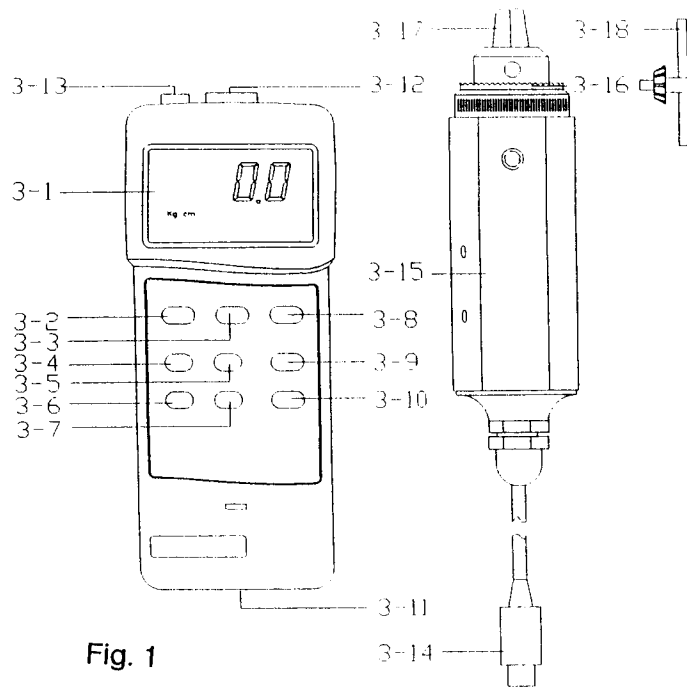

Fig. 1
- 1) Plug in the " Sensor Cable Plug " (3-14, Fig. 1) to meter's " Sensor Input Socket " (3-12, Fig. 1).
- 2) Power on the meter by push the " Power Button " (3-2, Fig. 1).
- 3) Push the " Sensor Type Button " (3-8, Fig 1) to check if the meter's sensor type is same as the external torque sensor.
Push the " Unit Button " (3-5, Fig. 1) to select the unit Kg f-cm, LB f-inch or N-cm (Newton-cm).
Push the " Resolution Button " (3-7, Fig. 1) to select the High resolution or Low resolution.
The " Fast/Slow Button " (3-10, Fig. 1) is used to select the fast sampling time or slow sampling time.
7) To connect the "Cramp" (3-17, Fig. 1) to the measured installation and use the "Opinion" (3-18, Fig. 1) to lock the "Gear" (3-16, Fig. 1). Ref. Fig. 2 & Fig. 3.
Before the measurement, if the meter not show zero value, it can push the " Zero Button " (3-9, Fig. 1) to tare the display value, the LCD will change to zero value.
During the measurement, push the " Peak Button " (3-6, Fig. 1), the LCD will show the " PEAK " indicator & the display will hold the peak value.
During the measurement, pushing the " Hold Button " (3-3, Fig. 1) will freeze the measured value & display will indicate " HOLD " symbol. Push the " Hold Button " again to release the data hold function.
* The DATA RECORD function displays the maximum and minimum readings. To start the DATA RECORD function, press the " Max./Min. Button " (3-4, Fig. 1) once. " REC " symbol will appear on the LCD display.
(a) Push the " Max./Min. Button " (3-4, Fig. 1) once, the " Max " symbol along with the maximum value will appear on the display.
To disable this feature, Select the memory record function during measurement, by pressing the " Max./Min. " button (3-4, Fig. 1).
The instrument features an RS232 output via 3.5 mm Terminal (3-13, Fig. 1).
- 2) Slide the Battery Cover (3-11, Fig. 1) away from the instrument and remove the battery.